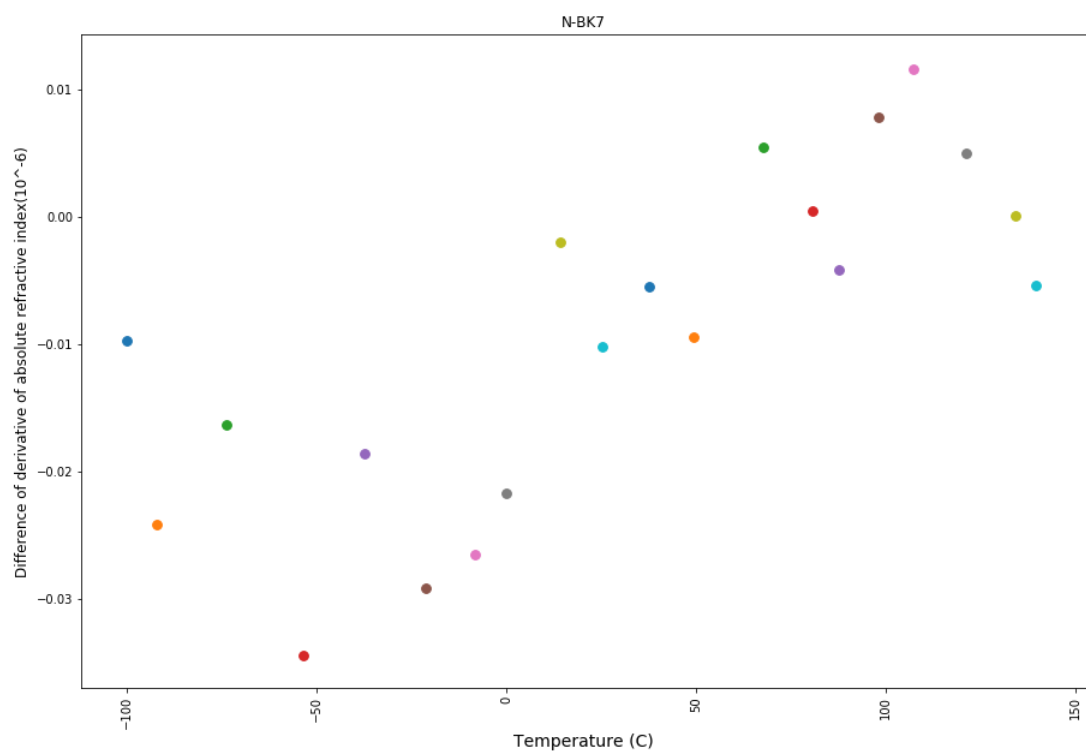

Figure 31: Verification of thermal data for N-BK7
I included total five glasses for verification. (1) N-BK7, (2) F2 (3) N-LAF2 (4) N-PK51 (5) SF57 From the figures 31, 32, 33, 34, 35, 36, 37, 38, 39, and 40 the error or difference between given and calculated data is very small around 0.000001 which could be negligible. So these are all optical analysis of the different glass types in the given catalog.